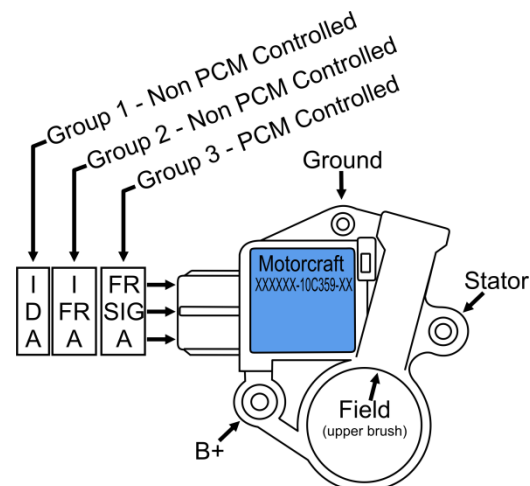

Figure 1 – Ford 6G Regulator Connections
1. They all use the same three-terminal design with regulator, brush holder and brushes incorporated into a single component part (*Figure 1*).